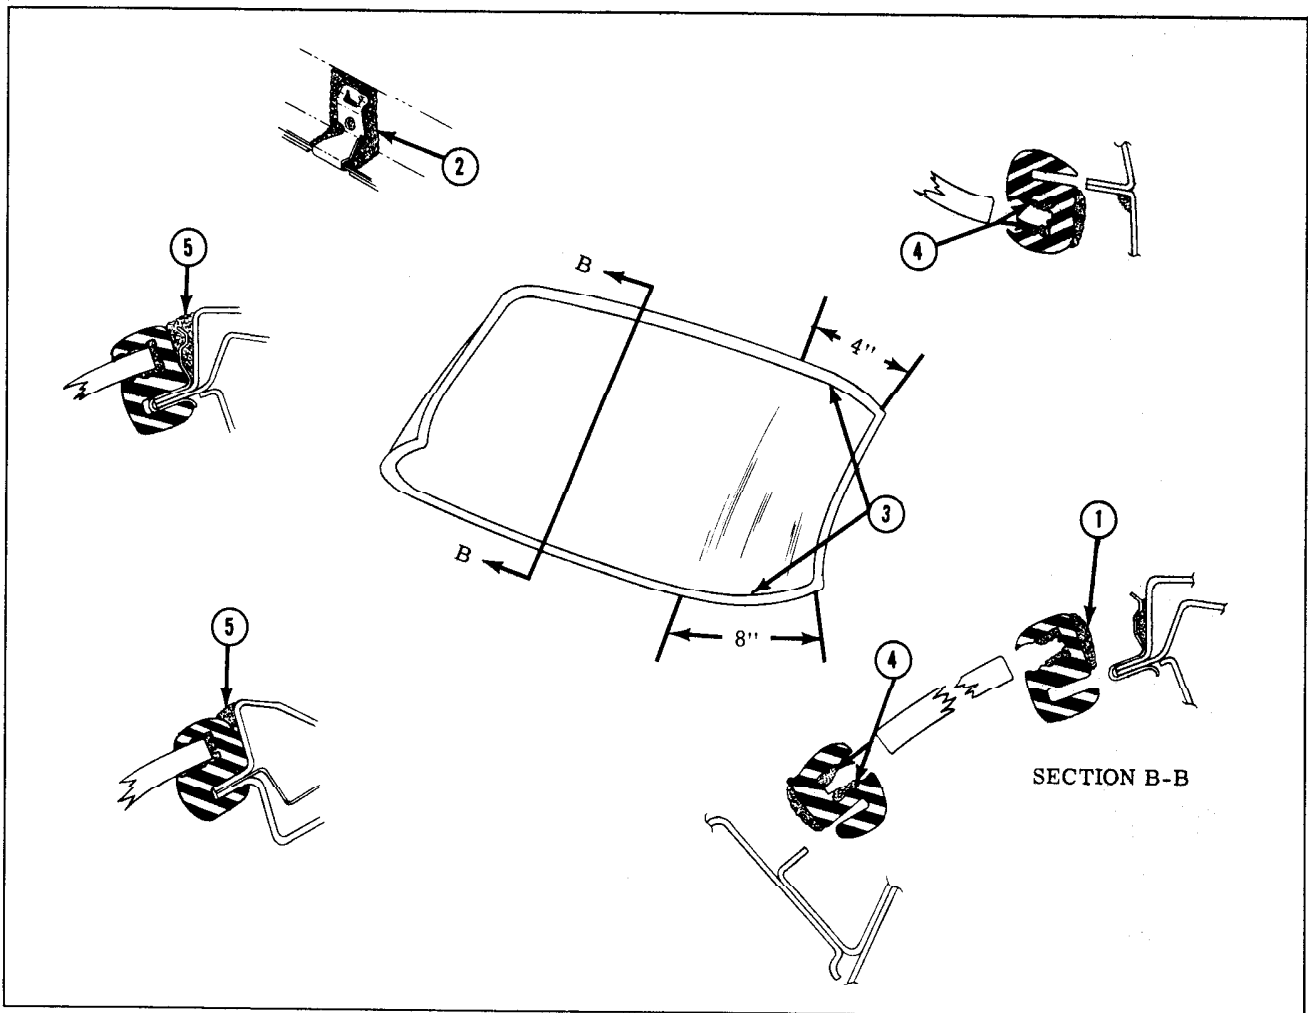

Fig. 17-10 Windshield Sealing
4. Apply a ribbon of medium-bodied sealer completely around base of rubber channel. (View "1", Fig. 17-10)
5. Inspect condition of each molding clip, install new clips where necessary, make certain clips are properly sealed to pinchweld and body on all except "67" styles. (View "2" Fig. 17-10)
6. Apply a bead of medium-bodied sealer approximately 1/4" in diameter to corner of windshield opening rabbet and around each side of windshield opening as shown. (View "3" Fig. 17-10)
9. Using a pressure type applicator, seal inner and outer lips of rubber channel to glass with weatherstrip adhesive. (View "4" Fig. 17-10) Seals are to extend completely around rubber channel.
11. On outside of windshield apply medium-bodied sealer between windshield rubber channel and opening across top and sides. (View "5" Fig. 17-10)
- Using a pressure type applicator, seal inner and outer lips of rubber channel to glass with weatherstrip adhesive. (View 4, Fig. 17-10) Seals are to extend completely around rubber channel.
- On outside of windshield apply medium-bodied sealer between windshield rubber channel and opening across top and sides. (View 5, Fig. 17-10)